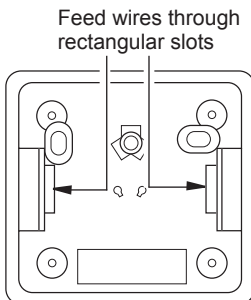

Figure 31 - Back View of Thermostat Base
5. Feed the electrical wires through the rectangular slots on each side of the base (see Figure 31).